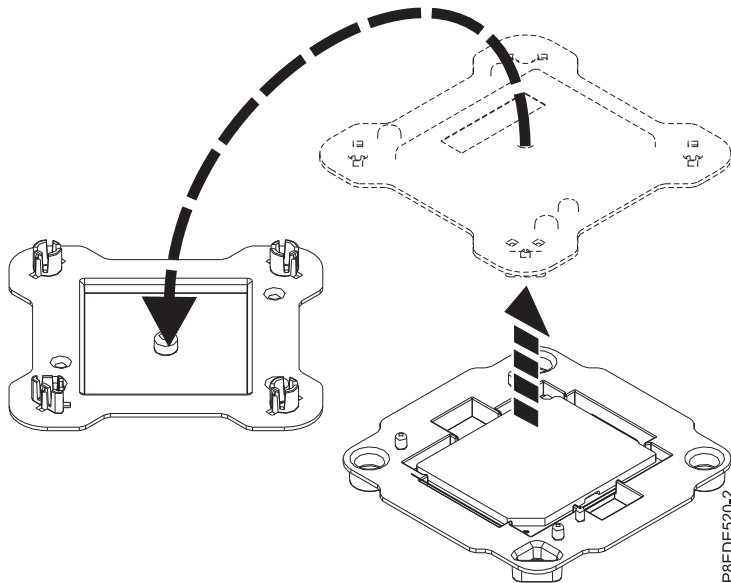

Figure 179. Opening the system processor module packaging
2. Open the packaging of the new system processor module, and place the cover upside down next to the tray, as shown in Figure 179. The cover is used for the system processor module that you are replacing.